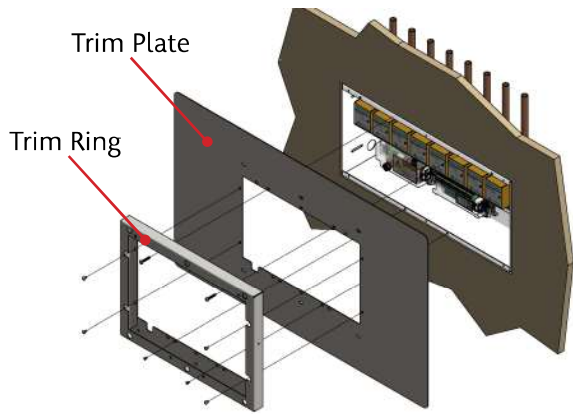

Figure 216: Retrofit Area Trim Panel
- a. Remove the trim ring from the standard trim plate and install the wide 27” wide x 16” tall trim plate from retrofit option kit (4107220615). Screws are provided in the option kit for attaching the trim ring to the trim plate (Figure 216).
1. Mount the Front Panel assembly to the trim ring using the countersink sheet metal screws provided on the trim ring (Figure 216).